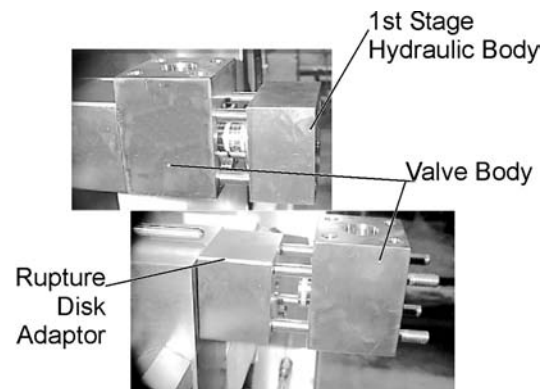

Figure 38 Valve Bodies
2. Remove four nuts holding 1st stage homogenizing valve actuator block. See Figure 38
6. Slide the rupture disc adapter off the studs. It is not necessary to remove the rupture disc unless repairing a ruptured disc or replacing it with a different pressure disc. See Figure 38